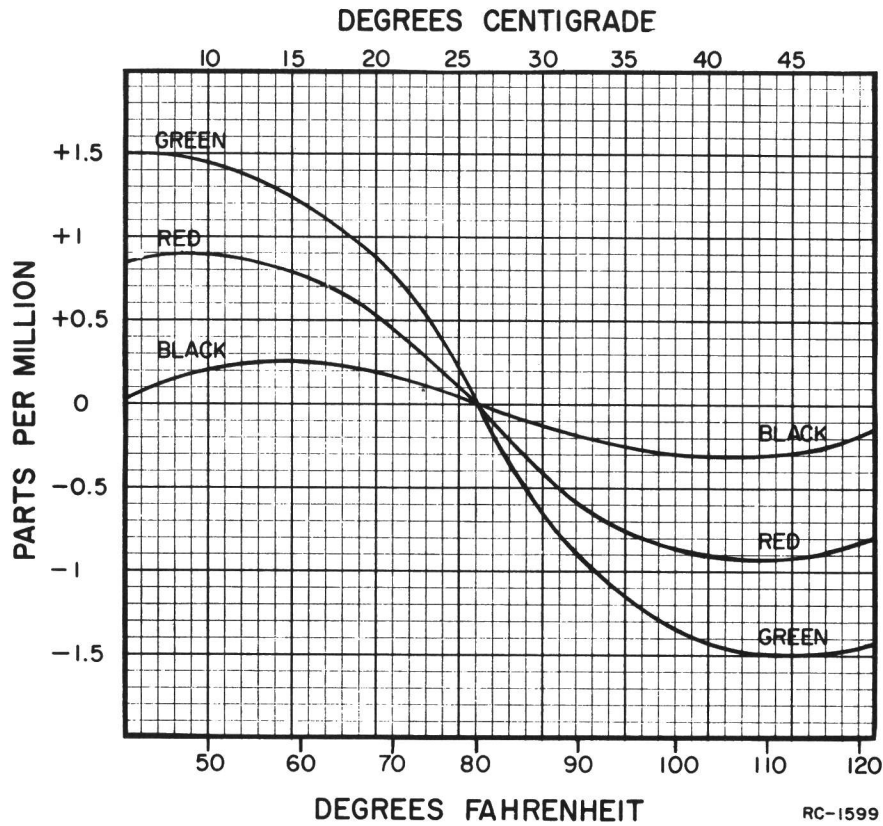

Figure 6 - ICOM Correction Curves
4. If the temperature is not within the 80°F (±4°F) or 26.5°C (±2°C) range, use the correction curves of Figure 6 for setting the ICOM frequency as follows:
- b. Multiply the frequency stenciled on the ICOM by 3 and then multiply this figure by the correction factor (from Figure 6) observing the sign (±) given to the correction factor.